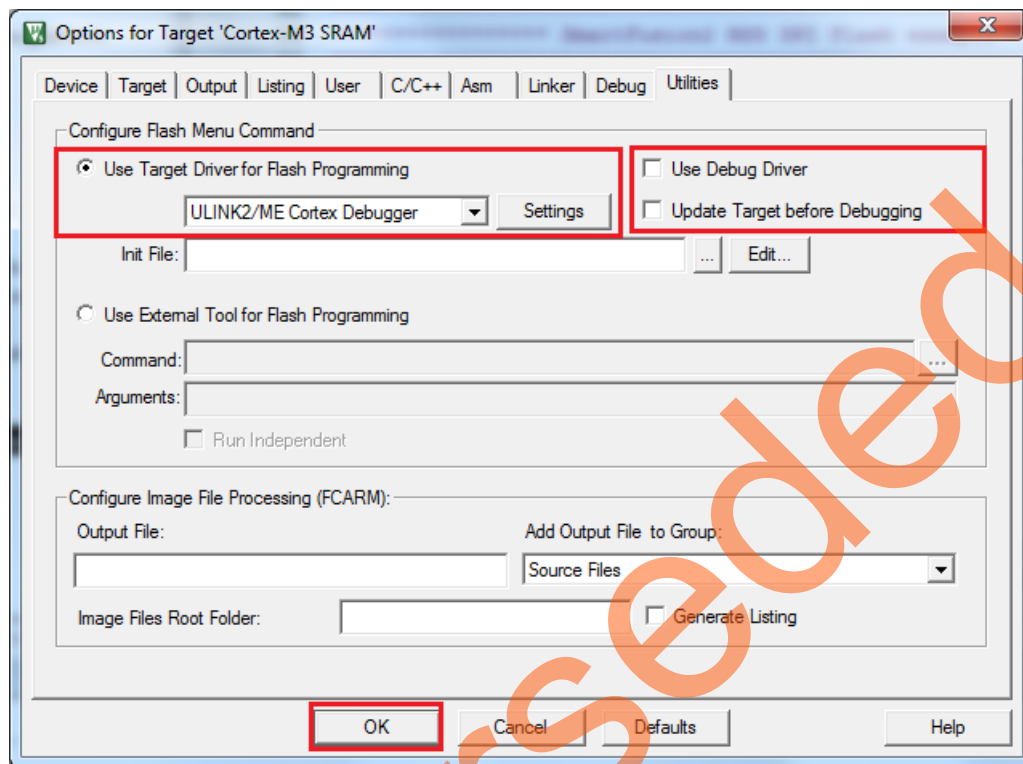

**Figure 30 • Target Options - Scatter File**
13. Click the **Linker** tab and navigate to the `SF2_SPI_Flash_Keil_Tutorial_DF\LiberoProject\Keil\CMSIS\startup_arm` folder to select the **Scatter File** as `smartfusion2_esram_debug.sct`, as shown in Figure 30.